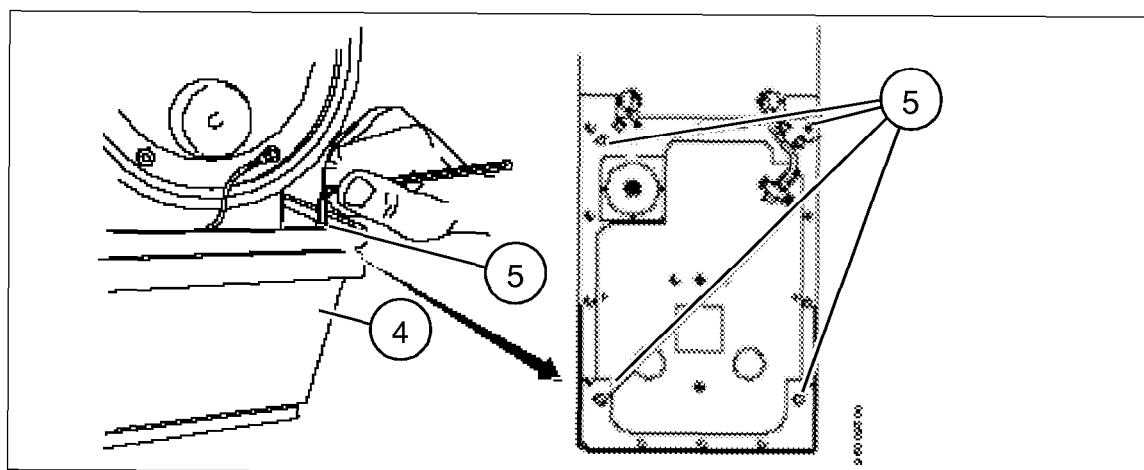

Fig. 2
- Remove the four screws 5/Fig. 2).